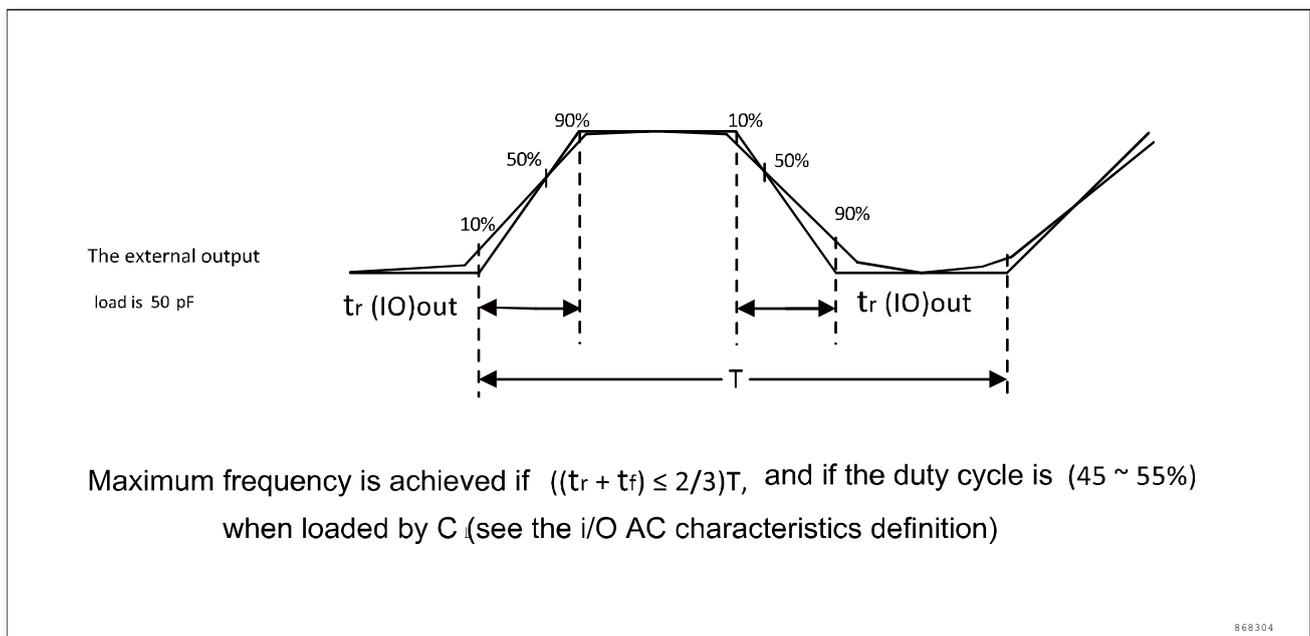

Figure 13 Input/output AC characteristics definition
The definition and values of input/output AC characteristics are given in Figure 13 and Table 35, respectively.
2. The maximum frequency is defined in figure 13.